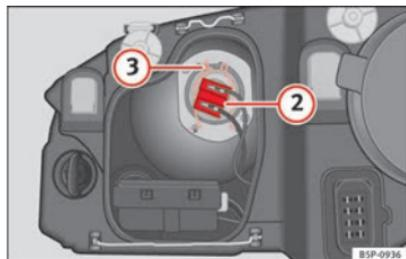

Fig. 185 Dipped beam headlights
- Remove connector ⇒ Fig. 185 ② from the bulb.
- Unclip the retainer spring ⇒ Fig. 185 ③ pressing inwards to the right.